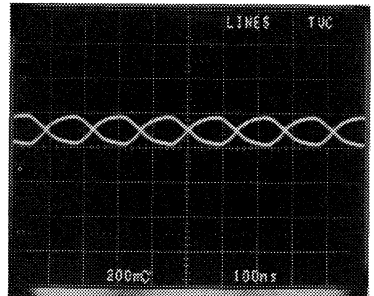

Figure 4-5.
8. ADJUST—Variable capacitor C543 for a symmetrical crossing at the 50% point of the sine waves as seen in Figure 4-5.